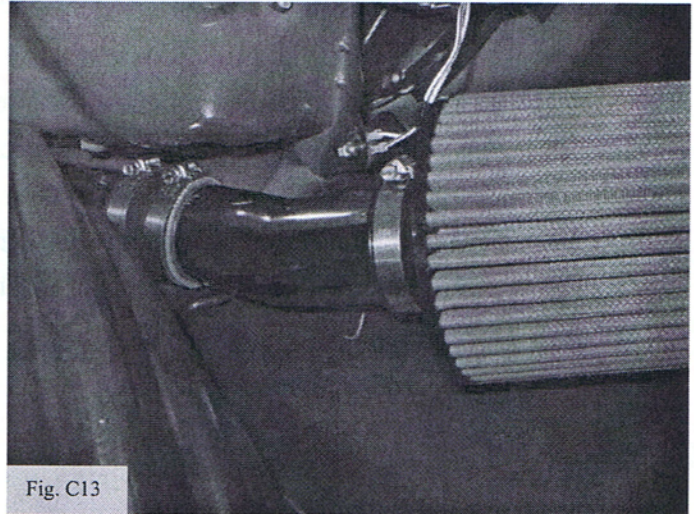

Fig. C13
- i. Make sure the pipe is fully inserted into the filter. (Fig. C13)